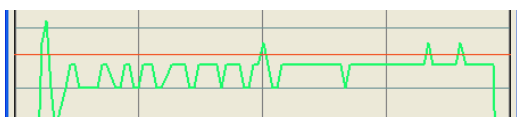

Figure 6-24: Current loop tuning with Kp=4200 and increasing Ki
Step 4: Now Kp is relative good enough. But there is still gap between the green curve and the red curve when we use the mouse to zoom in it as shown in figure 6-24. There is also big vibration, which will cause motor noise, on the green curve. So we need to introduce Ki, the integral gain to reduce the “gap” or steady error at the constant part. It follows the same procedure as Kp. Too high Ki will causes big vibration, system lag and makes the performance worse. See figure 6-24 for this procedure. Increase Ki until the gap can be accepted and not causes much vibration.